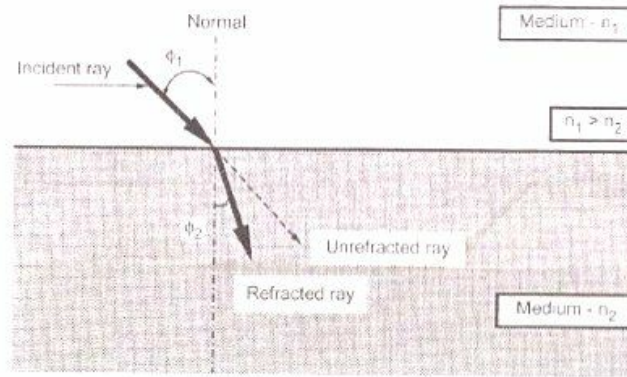

Fig. 1.6.4 Refractive model for Snell's law
- A refractive index model for Snell's law is shown in Fig. 1.6.4.